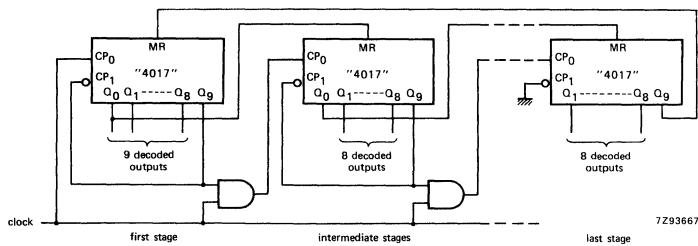

Fig. 10 Counter expansion
Figure 10 shows a technique for extending the number of decoded output states for the "4017".
**Note to Fig. 10**